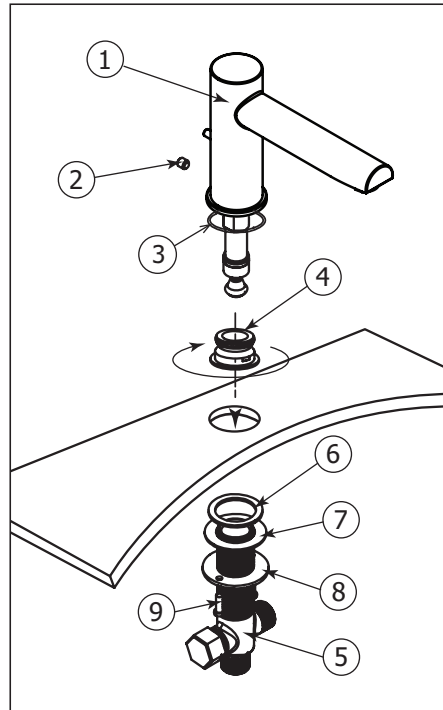

Fig.3
Secure the shank with supplied 2 screws (9). (Fig.3).